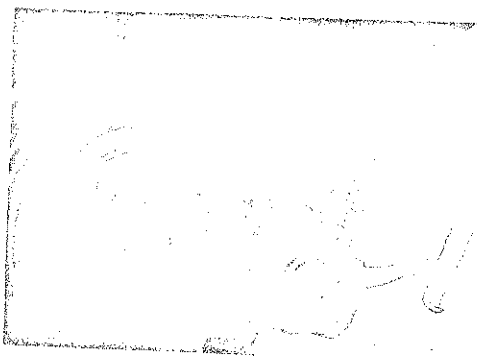

Figure 5—Typical Pinion Bearing Adjustment Test
correct spacer is used. Bearing adjustment may be checked with torque wrench (fig. 5) and reading obtained, should be 6 to 8 inch pounds torque. If torque wrench reading exceeds limits, install thicker spacer (28). When reading is below limits, install thinner spacer (23).
6. Install bearing (22) on inner end of drive pinion (25) and lock in place with new retainer (23) and bolt (24).
7. After bearing adjustment is completed; remove nut, washer and pipe or tubing from drive pinion (25); then install oil seal (32) in pinion cage (29).
8. Make certain that splines on pinion (25) and in flange (33) are cleaned; then install flange (33) and dust slinger on drive pinion (25). Attach flange with nut (34). Tighten nut (34) with torque wrench 700 to 900 foot pounds torque. Align cotter pin hole in drive pinion (25) with slots in nut (34) and install new cotter pin full size of hole.
9. Dip end of pinion with roller bearing (22) in differential lubricant. Install cage assembly (29) in differential carrier (40) using same number and thickness of shims (39) between cage flange and carrier as were removed. Be certain oil holes in cage assembly (29) and shims (39), index with those in carrier (40) to assure proper lubrication. Install nuts (37), and new lock washers (38) on studs (36). Tighten nuts firmly.